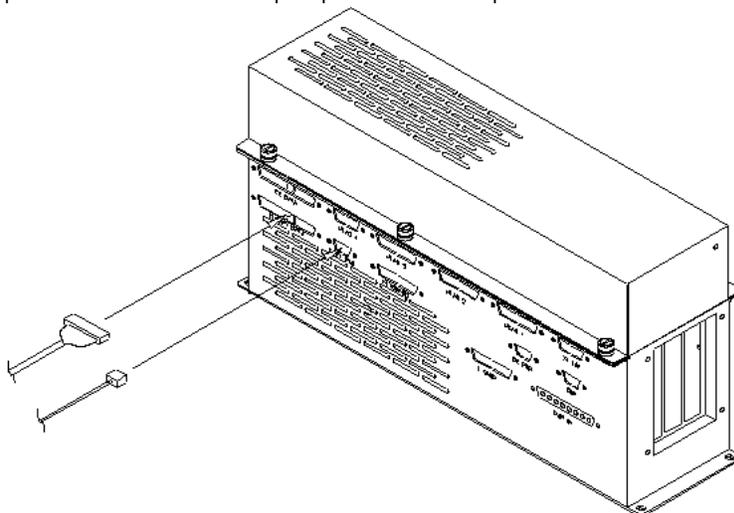

Figure 3-8
5. Plug the data ribbon cable into the back of the peripheral as shown in Figure 3-8.